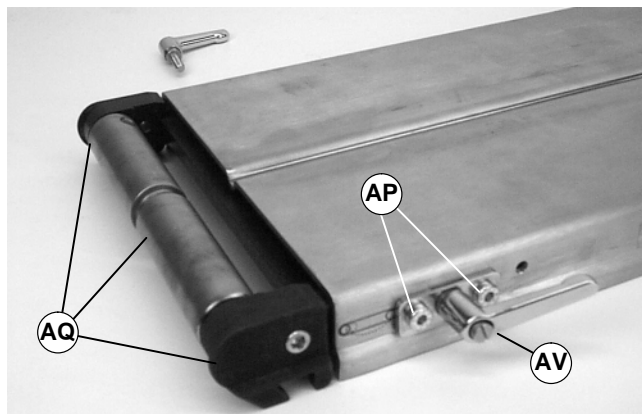

Figure 37
3. Remove two (2) screws (AP of Figure 37). Remove handle assembly (AV).